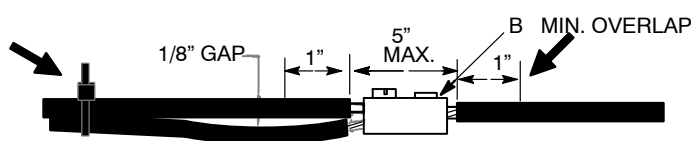

FIGURE 1
4. Position a wire tie around the two cables as shown in Figure 1. Omit this step if making a straight splice.